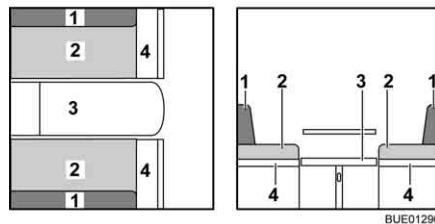

Fig. 124 During conversion
- Widen bench seat (Fig. 124,4).
- Remove the back cushions (Fig. 124,1) and lay them aside.
- Pull the seat cushions (Fig. 124,2) into the centre.